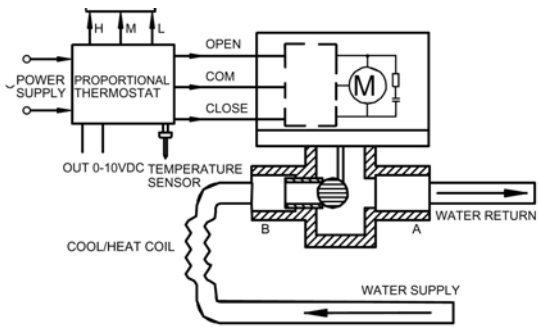

Fig. 2 2-Way Valve
- 2-way and 3-way valve is installed as Figure 2 and 3. For high building, pressure-reducing valve should be installed on branch pipe at ground floor.